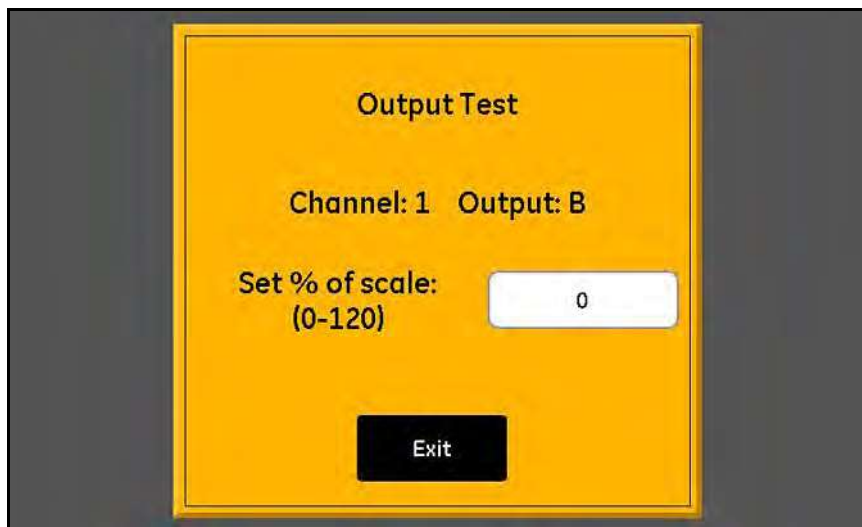

Figure 39: Output Test Screen
1. Tap the **Channel (1-6)** and **Output (A or B)** to be tested, and then tap the **Test** button to open a screen similar to *Figure 39* below.